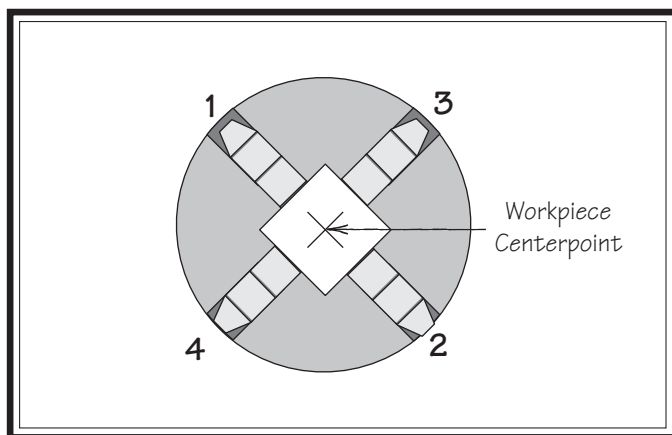

Figure 37. 4-jaw tightening sequence.
5. Tighten each jaw in small increments. After you have adjusted the first jaw, continue tightening the remaining jaws in an opposing sequence, as shown by the sequential order in **Figure 37**.